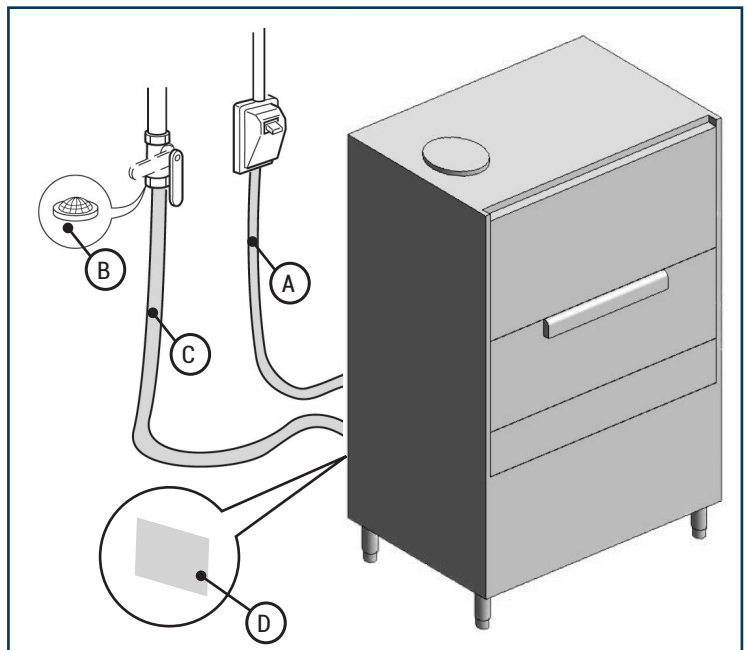

Fig. 8
Screw the end of the filling hose "C" (Fig. 8) to a threaded tap 3/4" G and to the solenoid valve, with the filter in between "B" (Fig. 8).
- Before making the electrical connection, make sure that the power line data corresponds to the data on the identification plate "D" (Fig. 8) and that the main power supply switch located upstream of the machine is switched to "O" OFF.
- Connect the power cable "A" (Fig. 8) to the main switch upstream of the machine.